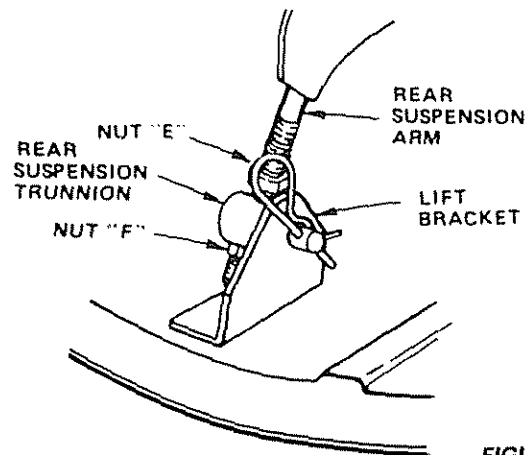

FIGURE 34
- b. To raise rear of mower, loosen nut "E" on both rear suspension arms. Screw both nuts "F" up EQUAL NUMBER OF TURNS (Fig. 34).
- d. To lower rear of mower, loosen nut "F" on both rear suspension arms an EQUAL NUMBER OF TURNS (Fig. 34).